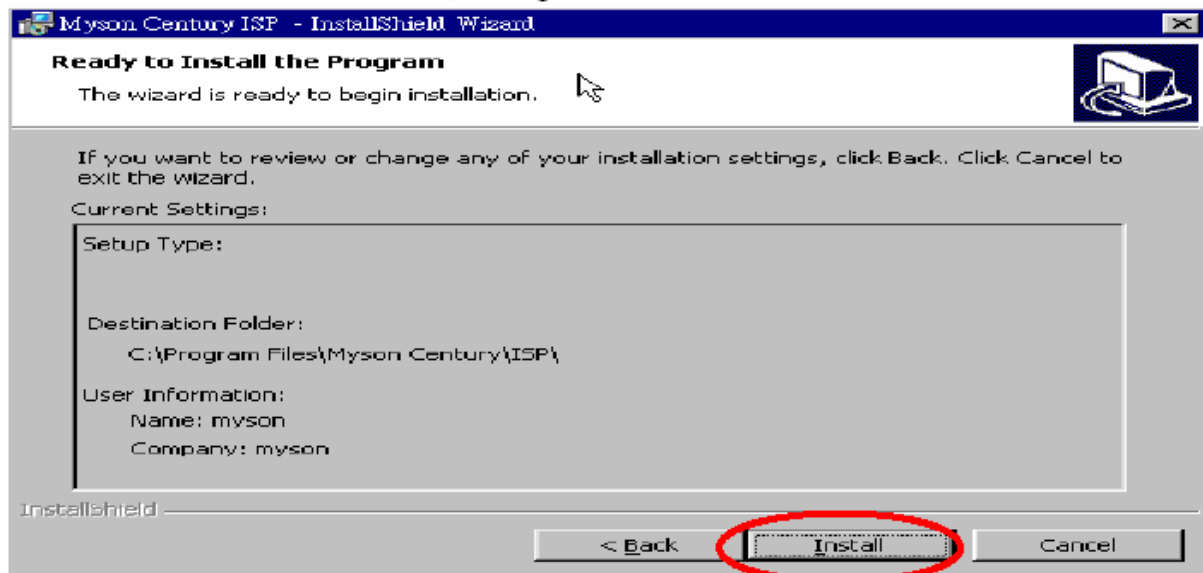

Fig 1.5
1.5 Press “Install “ button to continue , see Fig 1.5